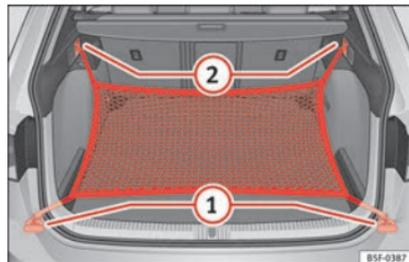

Fig. 135 In the luggage compartment: rings **1** and hooks **2** for securing the net bag (LEON ST model).
- Secure the short net hooks to the fastening rings » Fig. 135 ① » ⚠. The bag zip should be facing upwards.
- Secure the straps in the bag hooks ②.